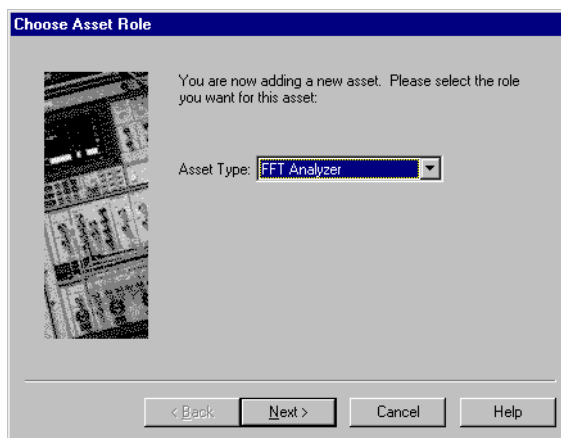

Figure 1-21 Choose Asset Type
- 2 From the **Asset Type** pull-down list (Figure 1-21), select **FFT Analyzer**, then select **Next**.